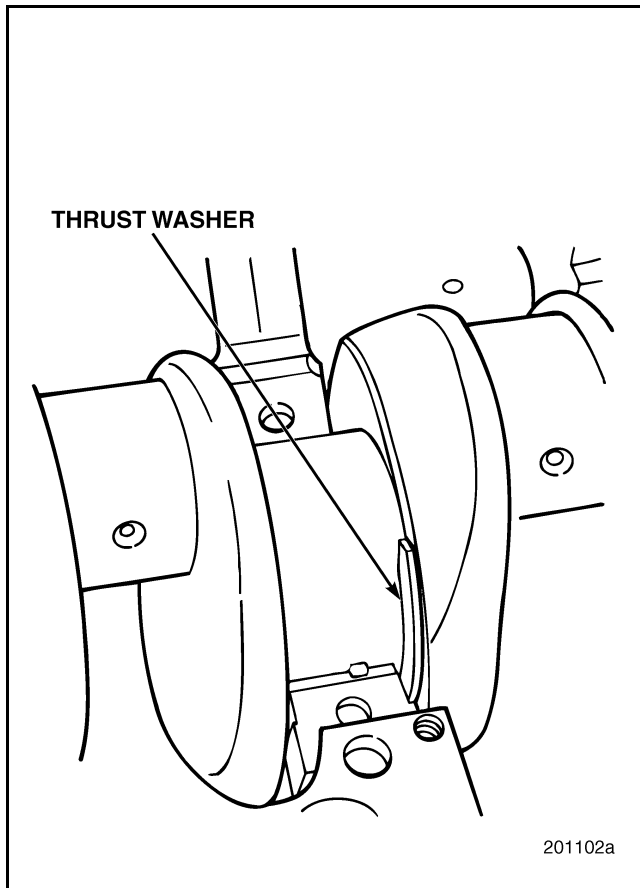

Figure 325 — Crankshaft Thrust Washer Installation
9. Place the upper thrust washer sections in position in the cylinder block at the center bearing, No. 4, location as shown in Figure 325. The steel side of the thrust washer goes toward the block, the aluminum-faced or bronze-faced side (side with oil reservoir grooves and tip-face reliefs) goes toward the crankshaft. This applies to both upper and lower thrust washer sections.